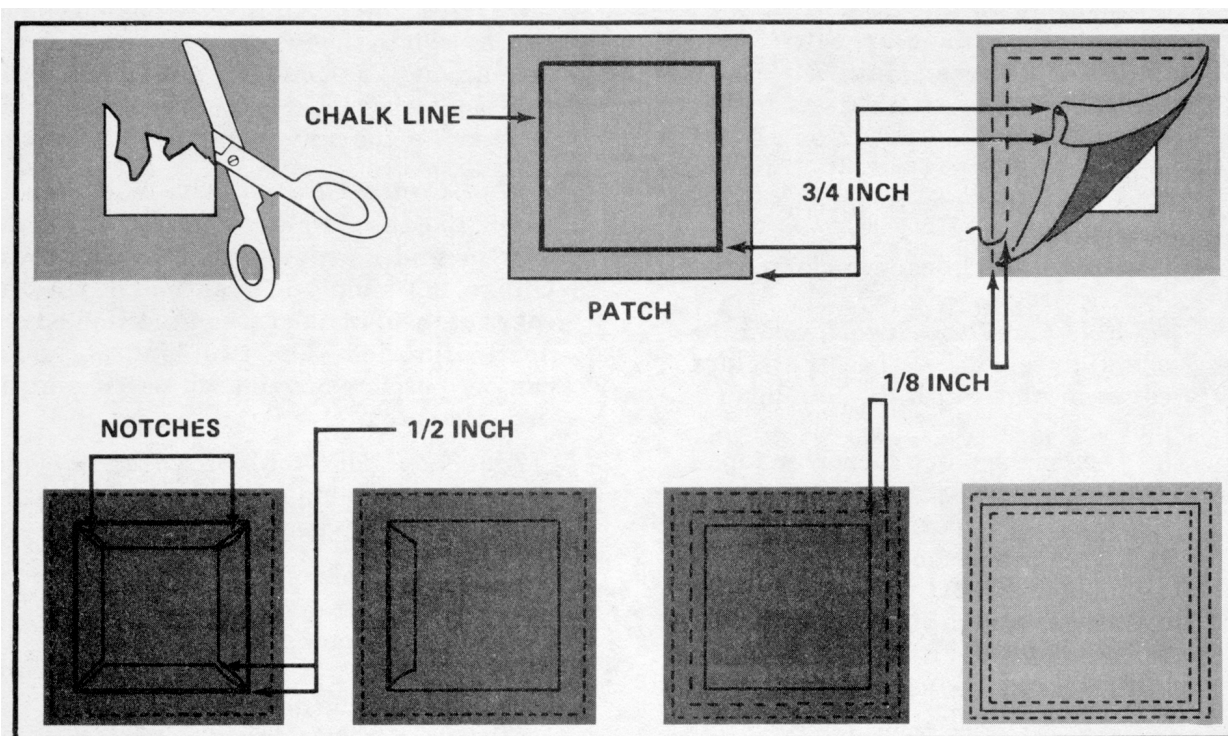

Figure 9-4. Felled canvas top patch
(1) **Felled Canvas Top Patch.** The felled canvas top patch (Figure 9-4) is sewn to the top side of canvas. To make a felled canvas top patch--